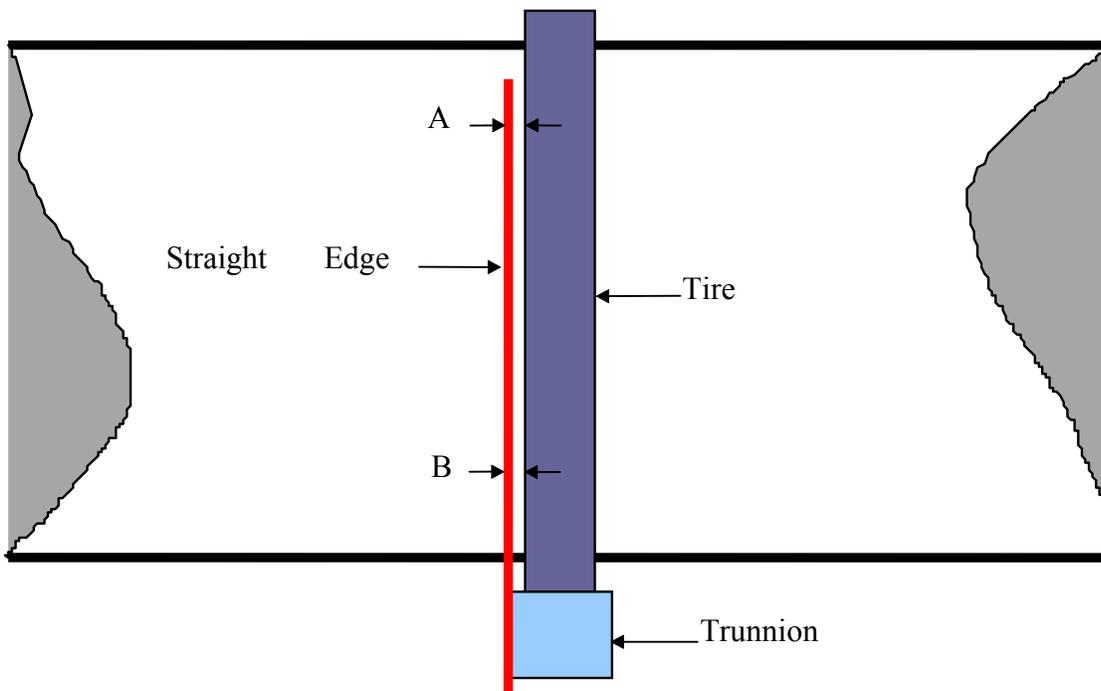

Figure 17. Measurement points A and B for setting
Measure the distance from the straight edge to the tire at two points (refer to **Figure 17**). These points need to be as far apart from each other as possible. In other words, get as high (A) and as low (B) as possible. Beware of the rolled edge that naturally develops on the outside of the tire. **Do not measure to it. This measurement is critical! Best results are obtained using a dial caliper or some other type of precision measuring device.** Zero skew is the point where both measurements are equal.